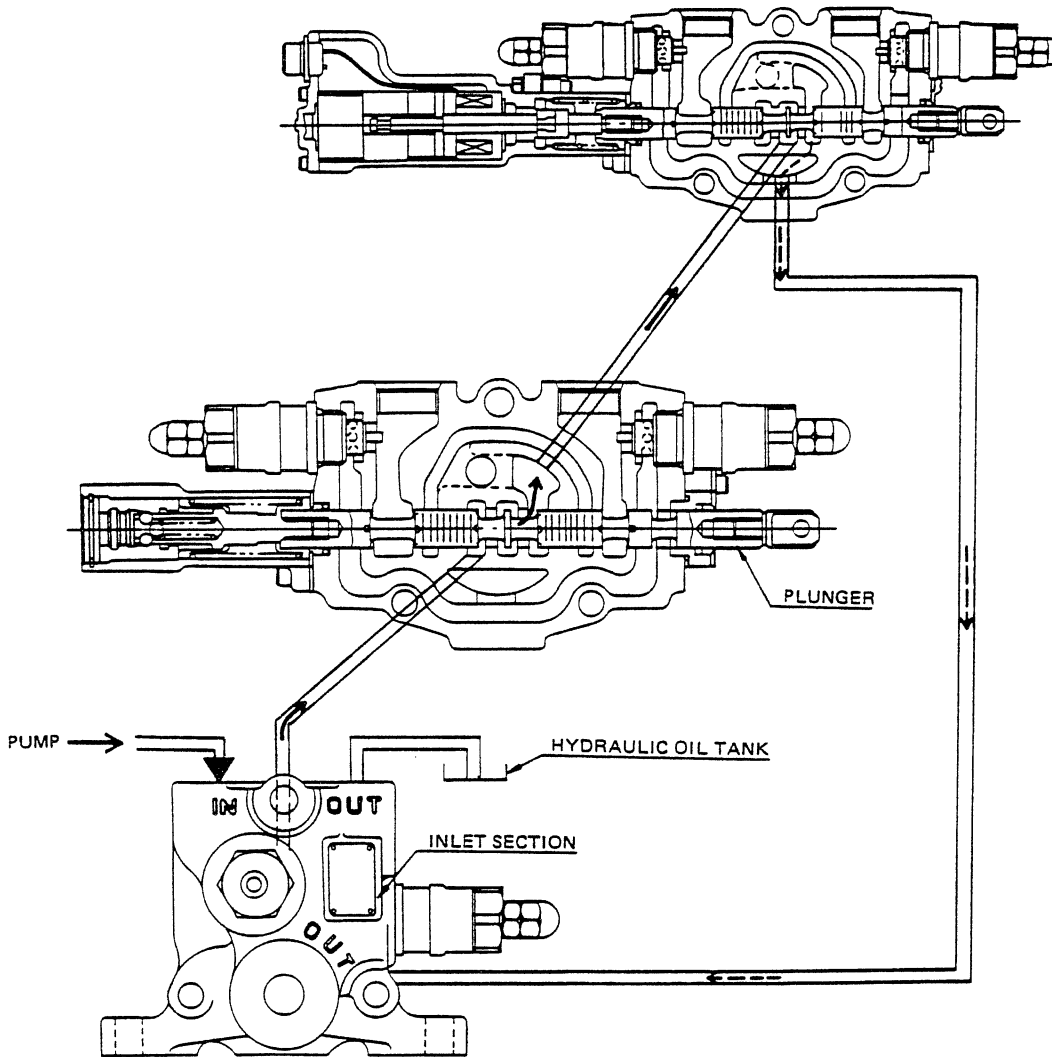

Fig. 4-5
(1) Neutral Position (Fig. 4-5)